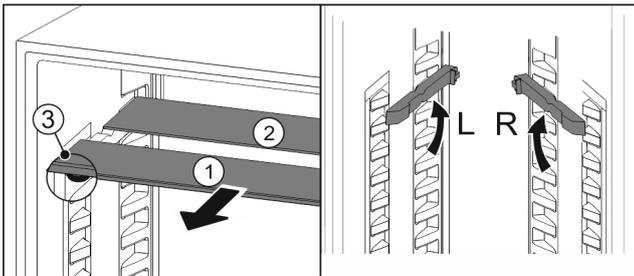

Fig. 98
- ▶ Pull the glass panels out Fig. 98 (1) from the front, one at a time.
- ▶ The glass panel Fig. 98 (1) and trim strip are at the front.
- ▶ The stops Fig. 98 (3) point down.